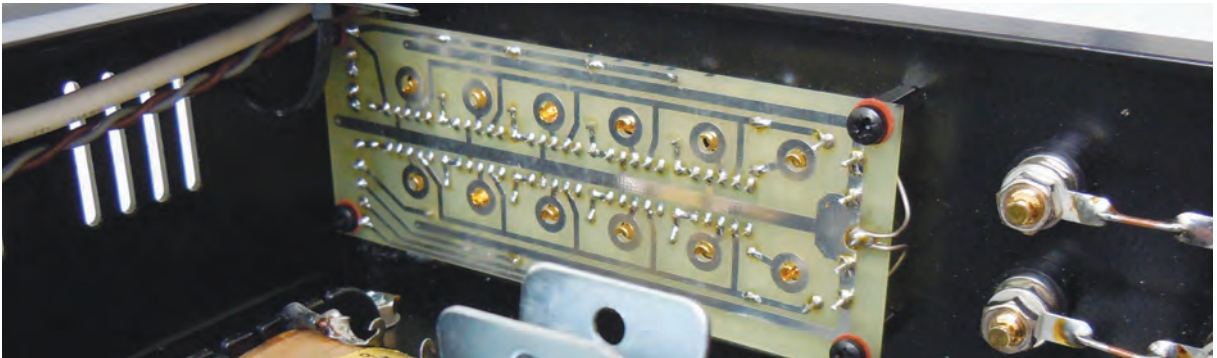

Fig. 17 Fitting the Relay Board
**Fig. 17** Push the completed Relay Switch Board carefully onto the pins of the phono sockets at the inside rear of the case and secure using M3x6 screws through the rear panel into the spacers.